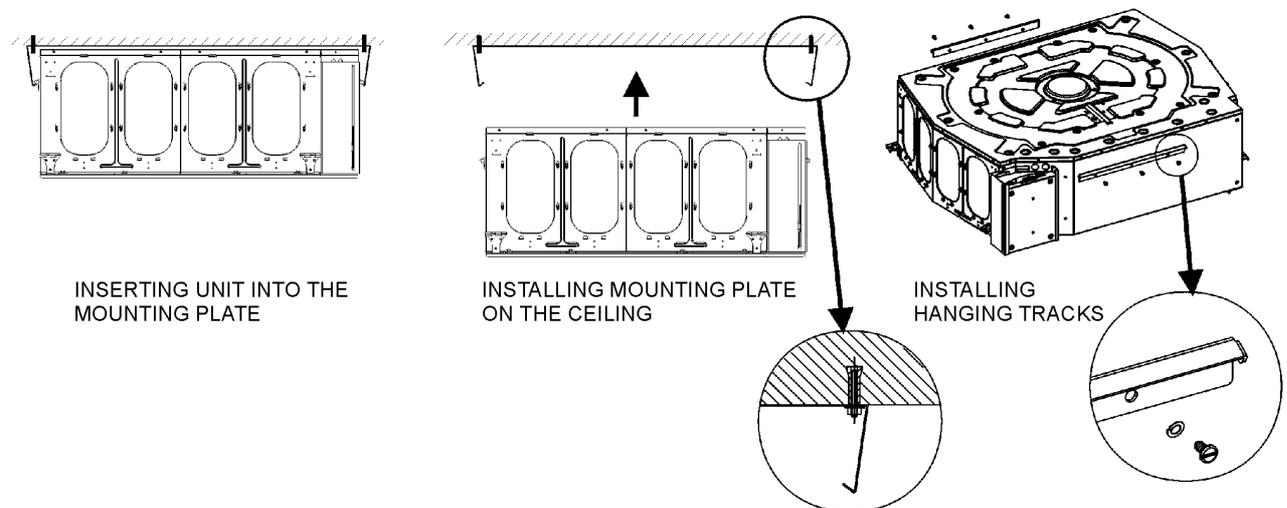

Fig. 6. Hanging the indoor unit on a mounting plate
- B. Install two hanging tracks on the unit by means of 3 screws each one (see Fig. 6).
- F. Raise the unit and slide it onto the mounting plate (see Fig. 6).